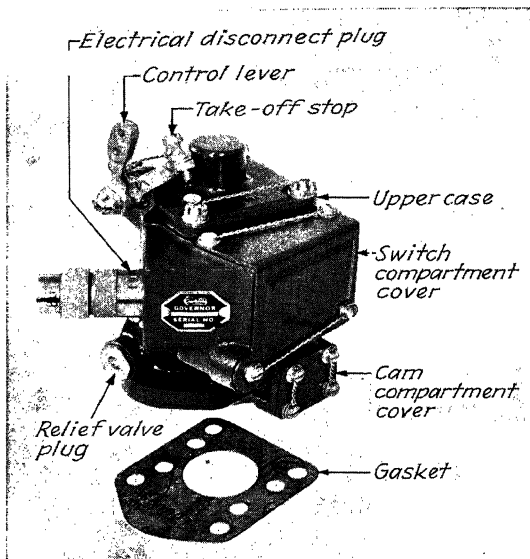

FIG. 72.—The proportional governor.
**Governor Installation** (Fig. 72).—The governor is usually mounted on the standard governor drive pad on the engine nose. Special adapters are available to permit installation on an accessory drive on the rear of the engine. The governor base is designed to accommodate the studs furnished with engines in accordance with S.A.E. specifications. A gasket is furnished